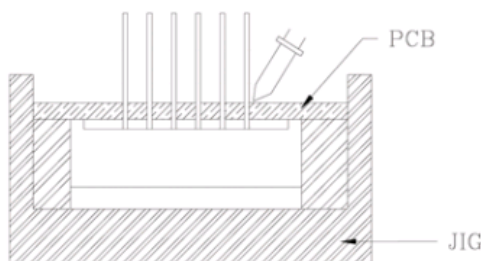

Fig.2
- 2) When soldering wire to the lead, work with a Fig (See Fig.2) to avoid stressing the package.